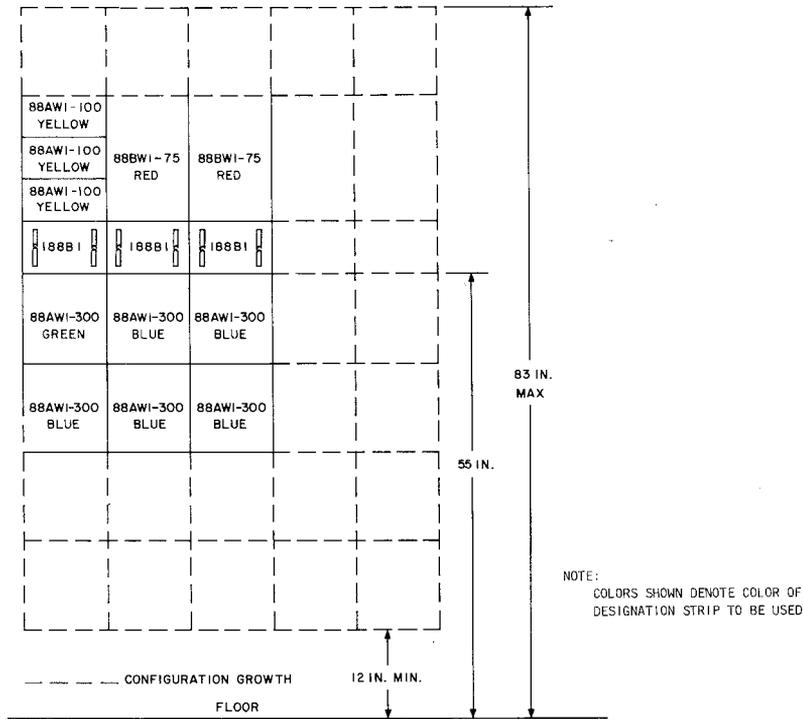

Fig. 6—Basic Layout of Wiring Blocks in Riser Terminal
3.01 Mark the **feeder (in)** cable pairs with **green** designation strips and the distribution cable pairs with **blue** designation strips. The basic layout (Fig. 6) and construction of a riser terminal are as follows: